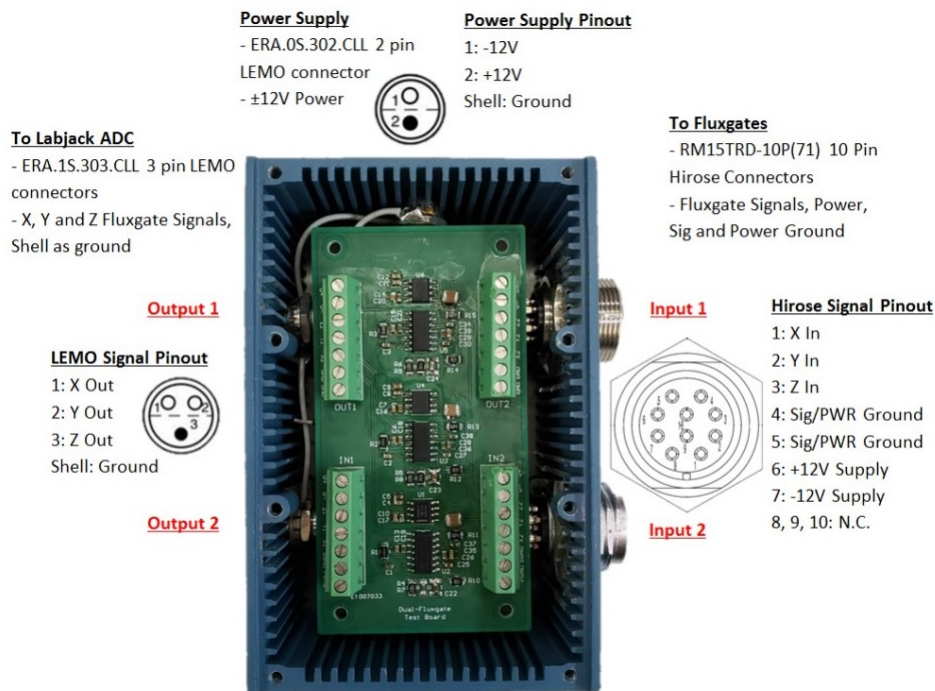

Figure 3: Pin-outs of PSU/Filtering inputs, outputs, and power.
The data acquisition (DAQ) unit designed by Elspeth Cudmore provides  $\pm 12V$  power to the fluxgates as well as active filtering for the raw fluxgate signal before it proceeds to the ADC. The fluxgates are connected to the 10-pin Hirose sockets via special DB9 to 10-pin Hirose cables. The pin-out of the Hirose connectors are shown in Fig 3.
*talk about floating ground* Power is provided by two 12V AC to DC adapters with the high of one adapter connected to the low of the other adapter resulting in the remaining two leads having  $\pm 12V$  with respect to the connected leads. The connected leads are the reference ground voltage for the fluxgates, integrate circuit, and the ADC inputs. The leads are connected to the DAQ via a 2 pin LEMO connector which is shown in Fig 3.